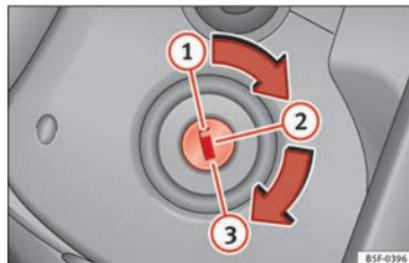

Fig. 168 Ignition key positions.
In this position » Fig. 168, the ignition and the engine are OFF and the steering may be locked.
- Turn the ignition key to position  **Fig. 168**  2. The warning lamp  will light for engine pre-heating.
- Turn the ignition key to position  **Fig. 168**